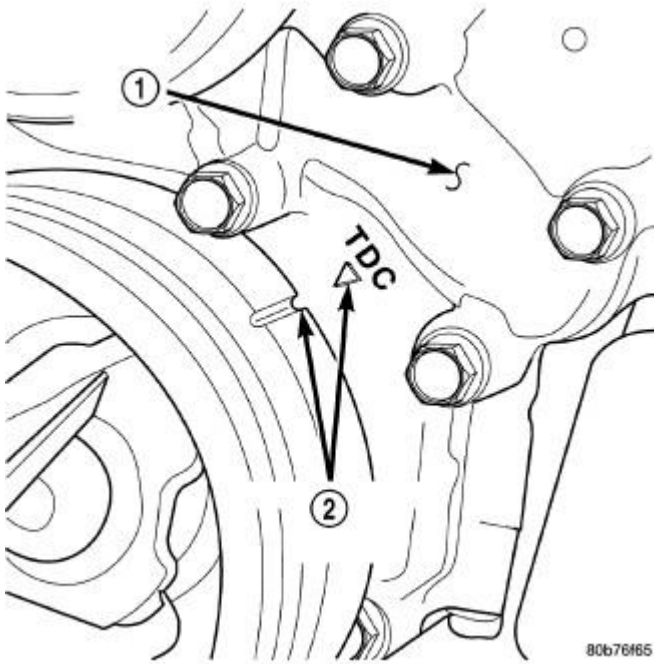

Fig. 43: Timing Chain Cover & Crankshaft Timing Marks
11. Rotate the crankshaft until the damper timing mark is aligned with TDC indicator mark. (2). Refer to **Fig. 43**.